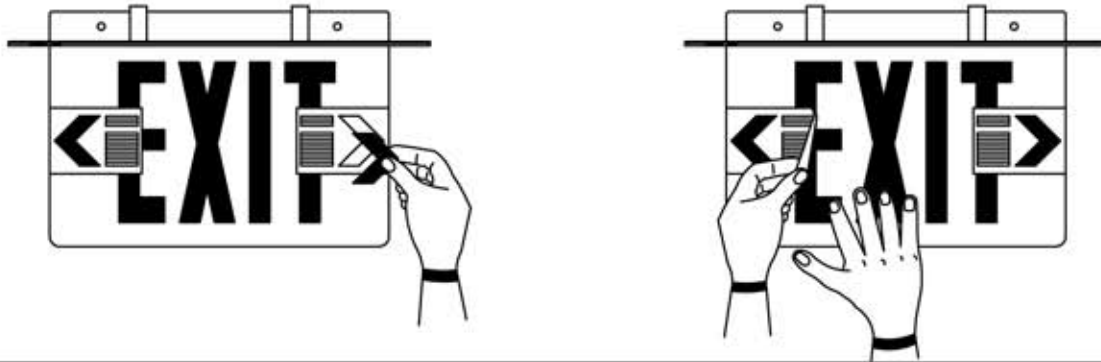

Fig. 6
5. Determine direction for chevron placement. Peel adhesive chevron/arrow from backing liner and carefully place into the marked position on the template. Firmly press chevron corners and edges. Then, peel template off, leaving the chevrons in place. (See Fig. 6)